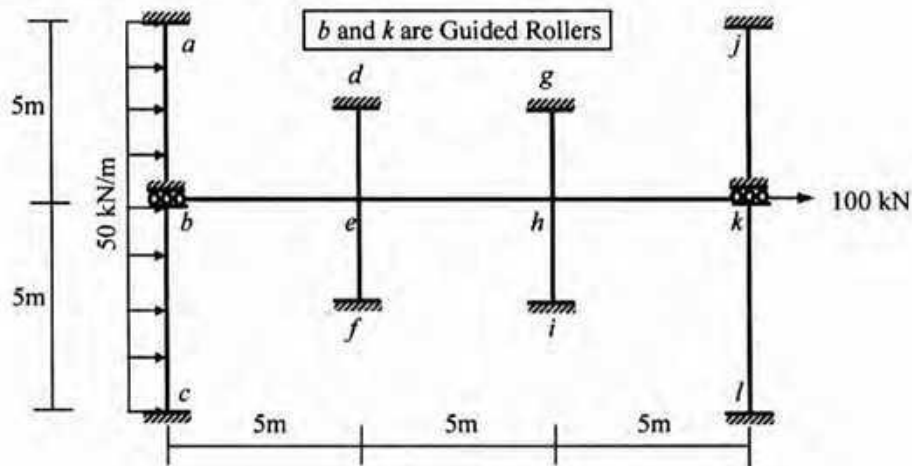

Fig. 4
5. Use the Stiffness Method (considering flexural deformations only) to calculate the unknown joint deflections and rotations of the frame loaded as shown in Fig. 4